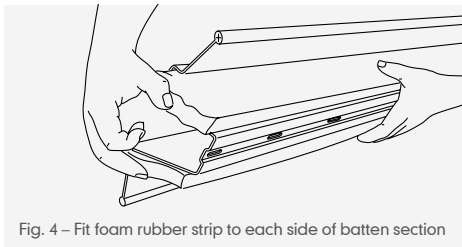

Fig. 4 – Fit foam rubber strip to each side of batten section
- 6 Insert the closed cell foam rubber strip (supplied in fixing kit), into recesses on each side of PVCu extruded dry hip batten section (Fig. 4).